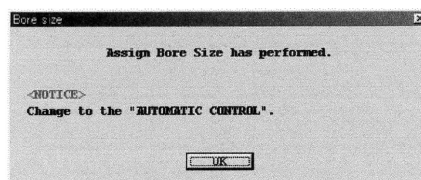

Fig.60
- ⑤ When the previous settings are replaced with the new settings just entered in response to clicking on "OK", a message box as shown in Fig.60 appears. Clicking on "OK" button at this point completes the setup.60